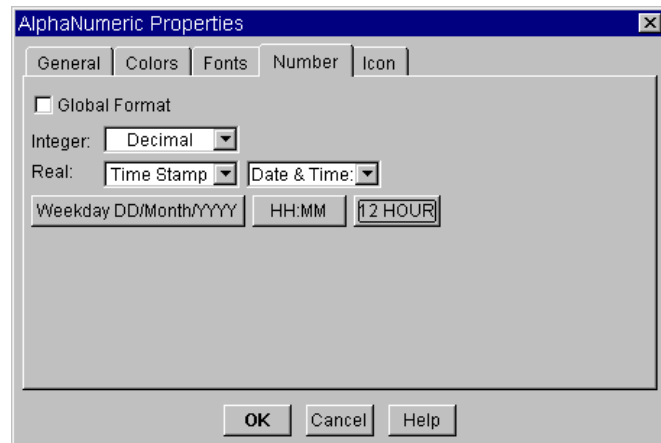

Figure 139 The AlphaNumeric Properties Box
- 9 Click **HH:MM:SS** to toggle to **HH:MM**. Click **24 HOUR** to toggle to **12 HOUR**. See Figure 139.